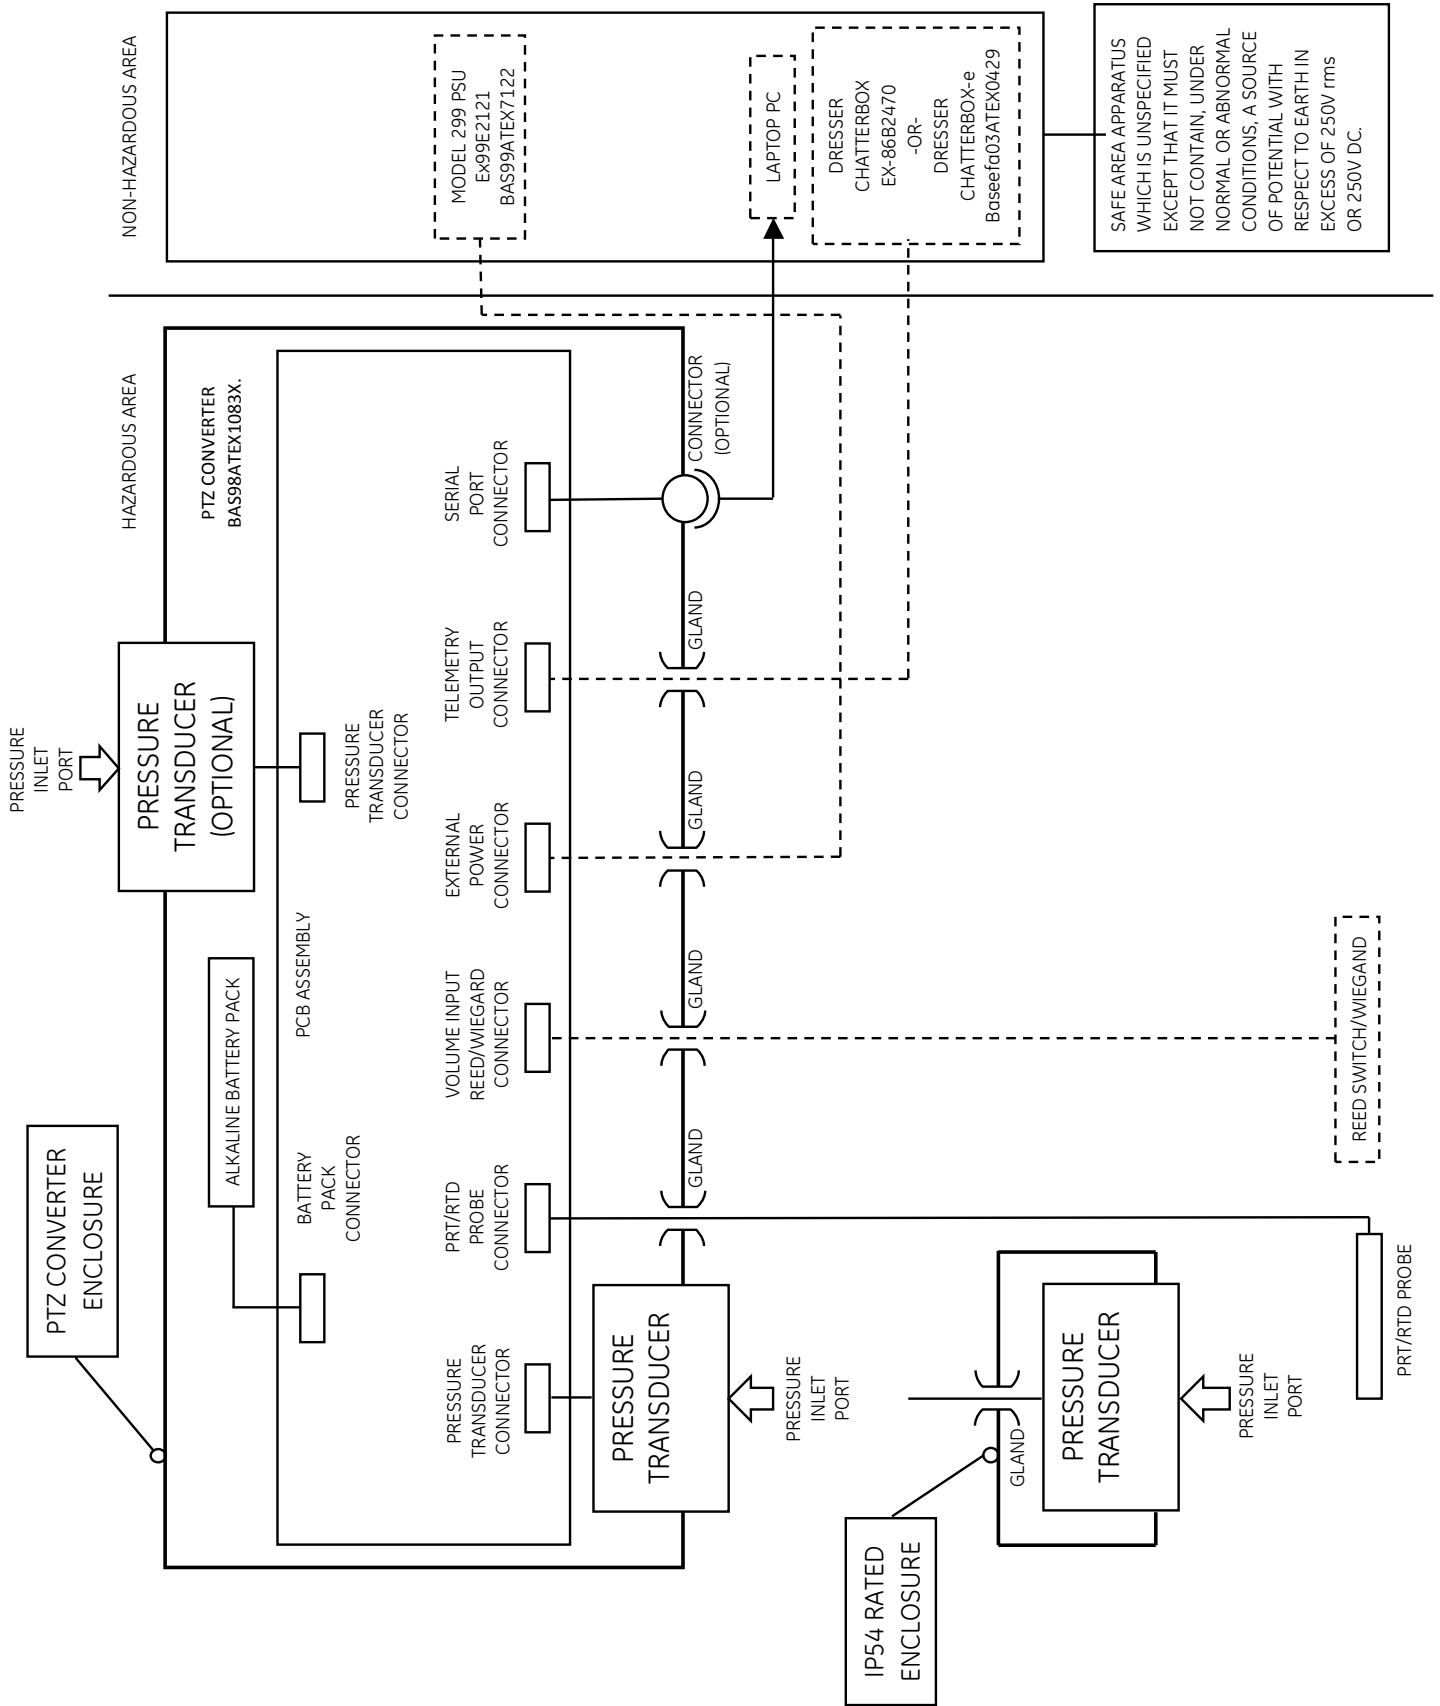
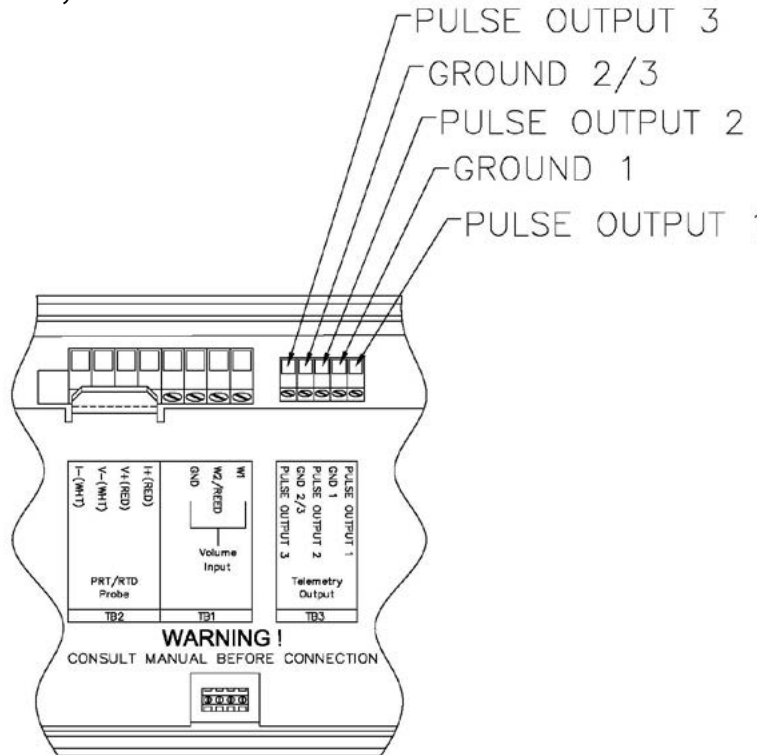

Figure 2 – Intrinsic Safety System Diagram for Baseefa Compliance
Figure 7 – Telemetry Output Connections (TB3)
The connection of the MC2 to other instruments must be carried out in accordance with the Intrinsic Safety System Diagram shown in Figure 2 (Intrinsic Safety System Diagram for Baseefa Compliance). Use Figure 2 (Intrinsic Safety System Diagram for Baseefa Compliance) to achieve compliance with Baseefa requirements, as follows:
7. The serial port may be connected to the I.S. GSM modem (Cert No. BAS99ATEX7049) at any time in accordance with Figure 2 (Intrinsic Safety System Diagram for Baseefa Compliance), and then the cable must comply with note 5.
Where an MC2 installation must meet Intrinsic Safety requirements, refer to the Intrinsic Safety System Diagram (Figure 2) and section 4-Safety, before commencing installation. It is essential to follow any National Codes of Practice dealing with Intrinsically Safe installations. All Intrinsically Safe circuits must be segregated from non-I.S. circuits. The transducers used in the MC2 are intrinsically safe.
Connection of non intrinsically safe equipment not detailed in the System Drawing (Figure 2) into MC2 must be properly assessed by the user, and the manufacturer (Dresser) will not take responsibility for the overall safety of the system.
Figure 7 (Telemetry Output Connection (TB3)) shows the connections for the telemetry output. Other Dresser NGS approved products, such as the Dresser Chatterbox (isolation unit) may be connected to the telemetry outputs. Any equipment connected to the telemetry output must be individually assessed to ensure that the system is safe. Connection to intrinsically safe equipment not detailed in the system drawing (see Figure 2 (Intrinsic Safety System Diagram for Baseefa Compliance)) must be properly assessed by the user, and the manufacturer (Dresser NGS) will not take responsibility for the overall safety of the system.